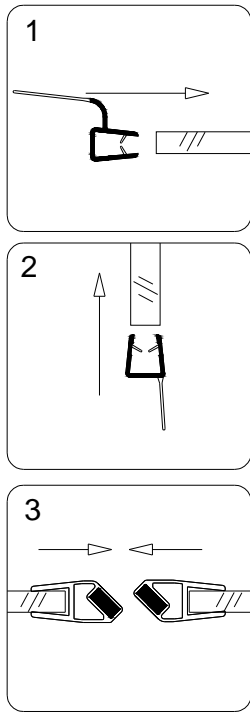

Fig 9
8. Push on the **Magnetic strips (11)** on the glass door and the **Stationary glass 2 (04)**, the **Bottom anti-water strip (12)** and the **Flanged anti-water strip (13)** to seal between the glass door and the **Stationary glass 1 (03)**. See Fig 9 for details.
9. Install the **Handle (08)** to the glass door. Locate the vertical handle and the horizontal handle. The horizontal handle will be on the outside and the vertical handle will be on the inside of the door. Start the installation from the outside which will involve the